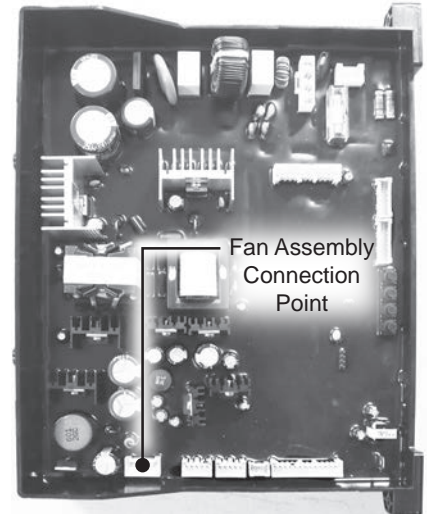
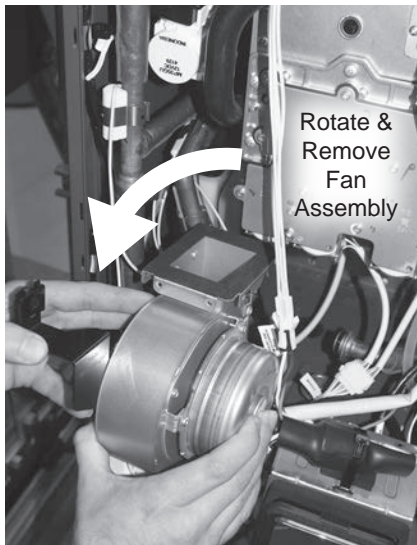

Figure 101 - Disconnecting fan assembly from PCB
Figure 104 - Rotate and remove fan assembly
- 20** Using Figure 101 as reference, disconnect the fan assembly wiring harness from PCB.
**NOTICE:** For easy removal, guide the fan around the left side of the inlet manifold as shown in Figure 104.
**29** Rotate new fan assembly 90° counterclockwise so the fan outlet is facing the water heater. Insert fan assembly into water heater using the same method as outlined in **Step 23** in reverse order. See Figure 104.
**30** Install fan assembly outlet firmly into burner. Verify all screw hole locations align properly. Secure fan assembly with the five screws previously removed in **Step 22**, starting with the bracket screw (C) to help stabilize the fan assembly.
**31** Guide fan assembly wiring harness behind gas valve. Using Figure 101 as reference, connect fan assembly wiring harness to PCB.